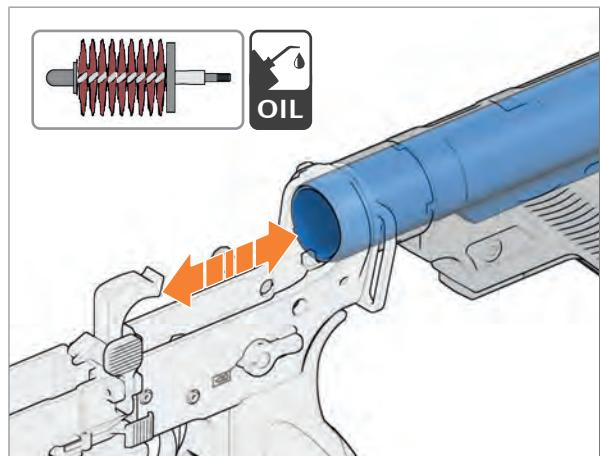

Fig. 101: Cleaning inside extension
1. Screw together handle rod, 2 extension rods and cleaning brush for extension (Fig. 101).
2. Clean extension inside with a lubricated cleaning brush (Fig. 101).